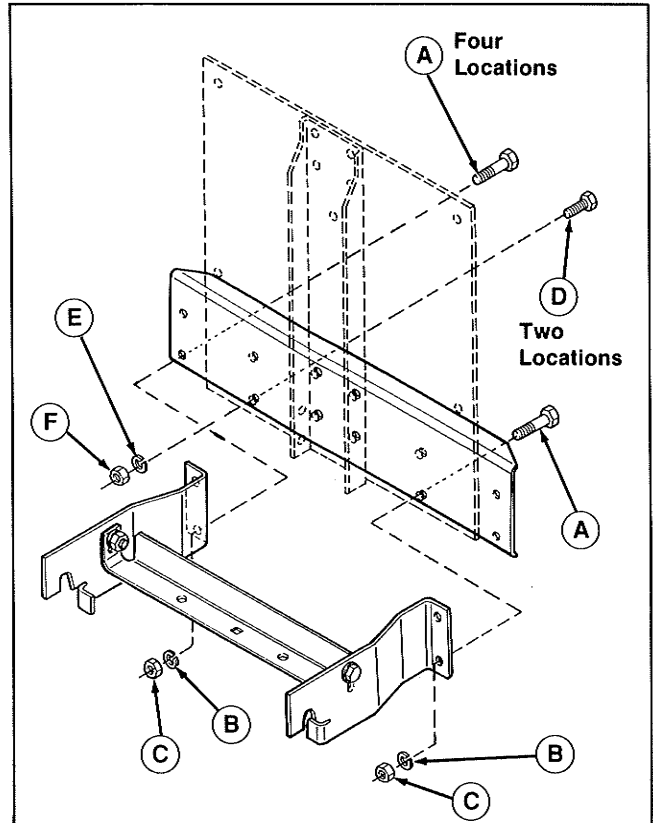

Figure 16. 30" Deck
- For 30" mowers, use the outside right hand holes and inside left hand holes for capscrew location. Refer to figure 16.